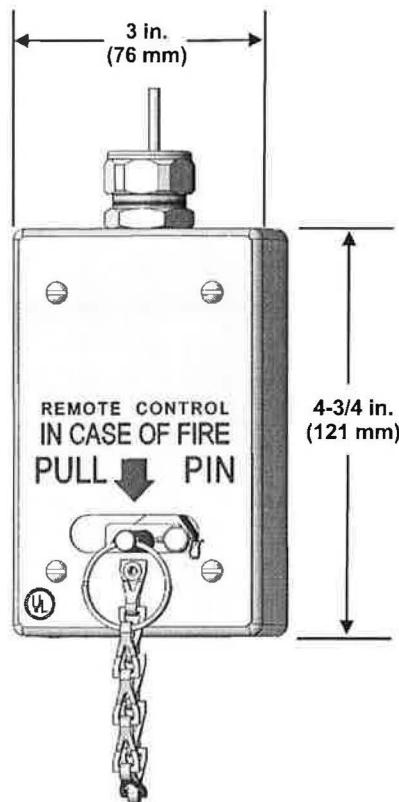

Figure 2-36. Surface Mounted End-of-Line Remote Manual Release, P/N 9197463
- End-of-Line Surface Mounted Remote Manual Control, P/N 9197463 (Figure 2-36)